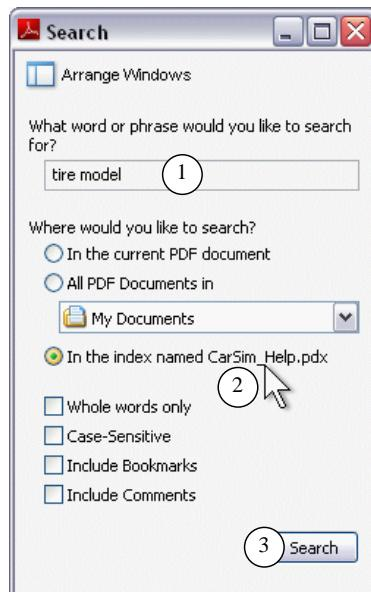

Figure 55. The Search window for PDF files (access with the Help menu item Search Help).
All of the documentation has been indexed to provide a rapid search capability. The second item on the **Help** menu is **Search Help**. Select this item to bring up a search Window (Figure 55) from your installed PDF browser (typically Adobe Reader). In the figure, the index file is identified as **CarSim_Help.pdx** ② and the example search phrase is “tire model” ①. Click the **Search** button to bring up all occurrences of the phrase (Figure 56), and double click on any results to view that occurrence in your PDF viewer.